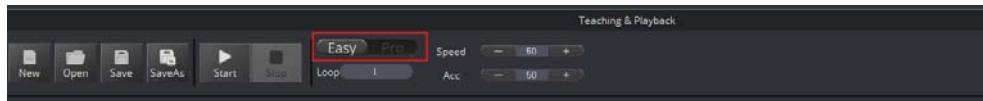

Figure 5.192 Switch advanced function
**Step 1** Click **Easy** icon on the **Teaching&Playback** page, as shown in Figure 5.192.